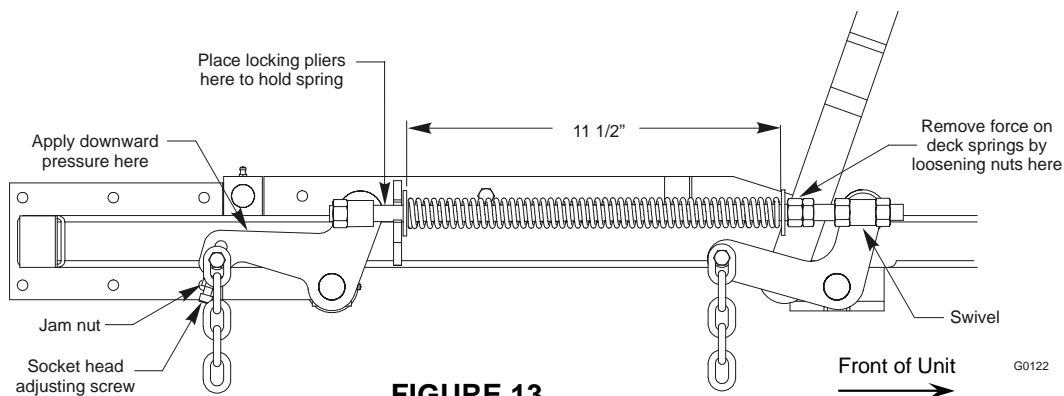

FIGURE 13
- e) Raise the deck to the 5" height position (also transport position) and take all force off of the two large deck lift springs by loosening the nuts at the front of each spring. See Figure 13.
- f) Lower the deck to the 1-1/2" height position. Force the left rear deck support arm downward about 1/4" to get the deck to rest at the 1-1/2" height position. Place locking pliers between the rear swivel and spring stop to hold the deck in this position. See Figure 13.
- g) Place a 3/4" thick block of wood under each of the two (2) rear anti-scalp roller brackets and place one under **one of the front center** anti-scalp roller brackets.
- h) Loosen the two (2) top chain bolts in slots in the rear deck lift arms. Loosen jam nuts and back off the socket head adjusting screws on the bottom of the arms until the chains are just loose. Turn the socket head adjusting screws in until slack is taken out of each chain. Tighten the jam nuts. Tighten the chain bolts in the deck lift arms making sure they don't move while tightening.
- i) Loosen the four (4) nuts which secure the front swivels (two per side) until the front chains are loose and front of deck is supported by the 3/4" block. Do not loosen the front chain hardware.